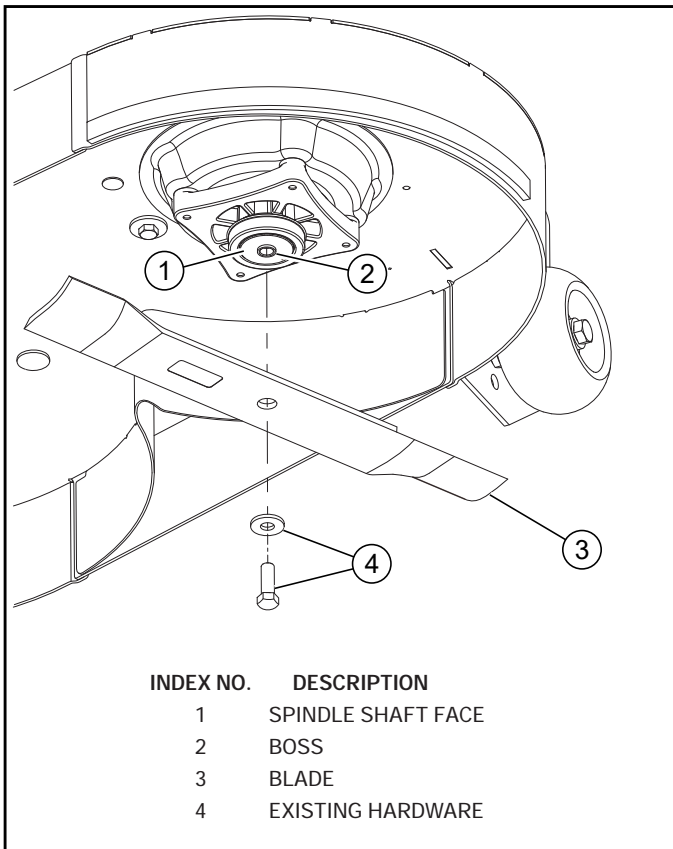

FIG. 1
3. Remove the existing blades. Retain the hardware. Fig. 1
NOTE: The spindles have a 5/8" diameter boss that centers the blades on the spindles. When installing the blades, make sure the blade is centered on the boss and seated flat against the spindle shaft face. Fig. 1